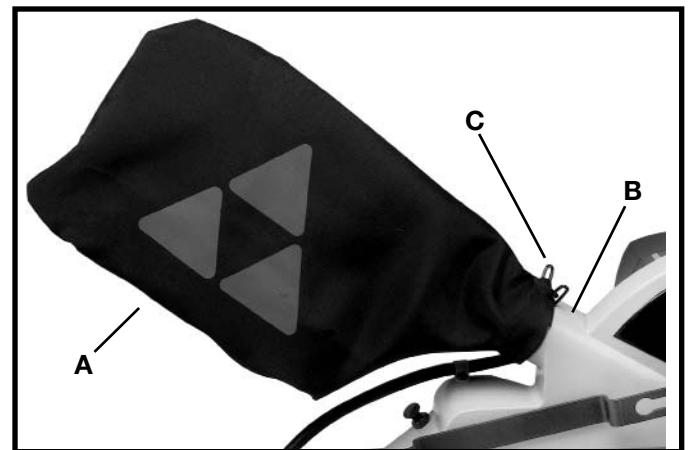

Fig. 7
1. Attach dust bag (A) Fig. 7 to the dust spout (B) making sure the wire ring (C) is engaged between the ridges in the spout.